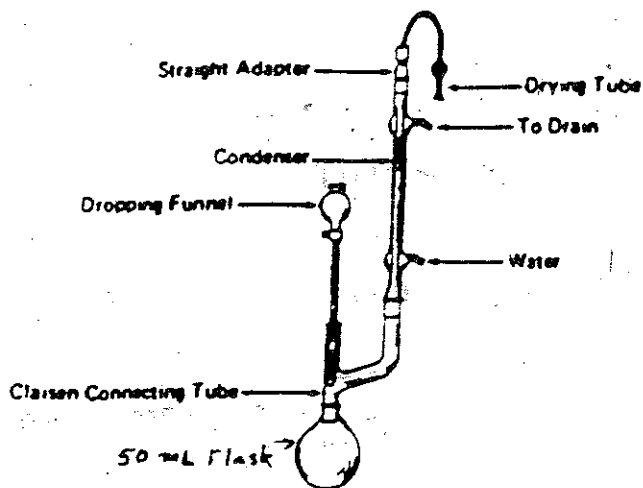
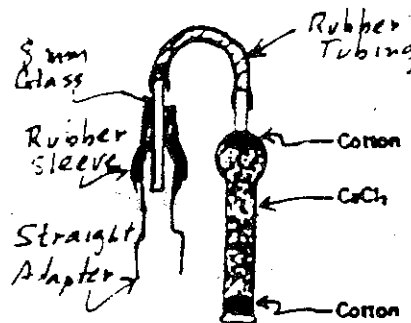

Figure 17.1. Apparatus for Refluxing with Simultaneous Addition of a Liquid
Figure 17.2. Drying Tube
**17.1-1. Preparation of the Grignard reagent.** Phenylmagnesium bromide. Assemble the apparatus shown in Figure 17.1 using a 50 mL round-bottom flask as the reaction flask. Do not run water into the condenser jacket yet. It is imperative that all of the glassware be *clean* and *dry*. The drying tube connected to the top of the condenser should be filled with anhydrous calcium chloride (Figure 17.2). The drying tube is inverted and attached by means of a U-shaped tube as shown, rather than directly to the straight adapter, to prevent finely powdered calcium chloride from dropping into the reaction flask and to prevent vapors which may condense in the drying tube from washing drying agent into the reaction flask.